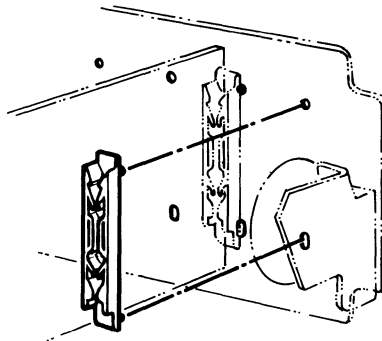

Figure 2-7. Installing the Card Guide
1. Install the plastic card guide by snapping it into the two holes in the system unit front panel. These holes align with expansion slot 1. The plastic leaves of the card guide should point down as shown in figure 2-7. The end of the card will slide into the groove in the guide which will hold the card in place.